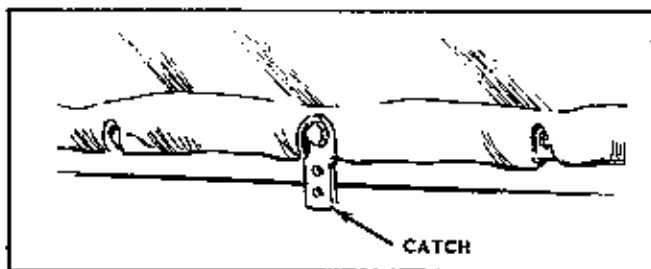

FIGURE 6
E. Insert the front reinforcing member into the slot at the front edge of the enclosure, and attach the catch bracket in the center as shown in Figure 6. The catch is secured with a lock nut which should be tightened just enough to hold securely but still allow pivoting.